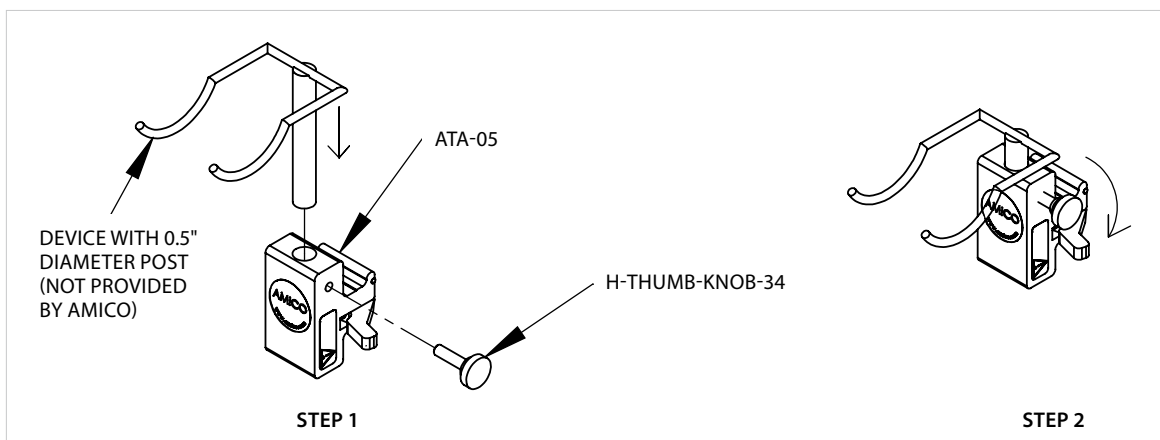

Figure 4
1. Turn H-THUMB-KNOB-34 counter-clockwise to loosen and allow clearance in hole to slide device with 0.5" diameter post into ATA-05's socket as shown in step 1 **(Figure 4)**.
2. Set device to desired height (slide the device slowly to allow enough post to be tightened in ATA-05, limited by device post length). **(Figure 4)**
3. Screw device in ATA-05 with the H-THUMB-KNOB-34 by turning it clockwise as shown in step 2. **(Figure 4)**